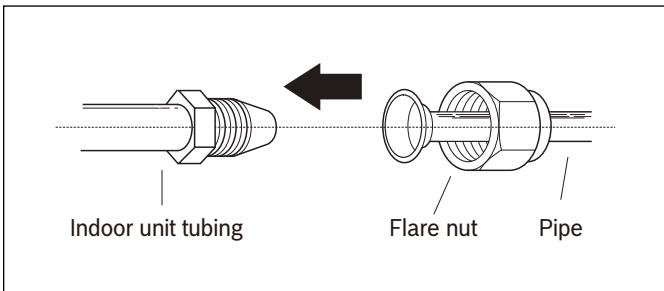

Figure 32
When bending connective refrigerant piping, the minimum bending radius is 10cm (4in). See Figure 32.
- Align the center of the two pipes that you will connect. See Figure 32.